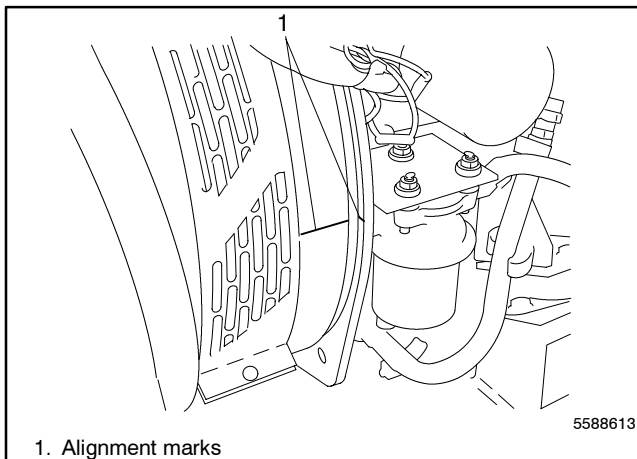

Figure 9-10 Alignment Marks
5. Install the four overbolts (the two long bolts in the lower holes). Check that the alignment marks on the stator housing and locator plate match. See Figure 9-10. Tighten the overbolts to 40 Nm (30 ft. lbs.).